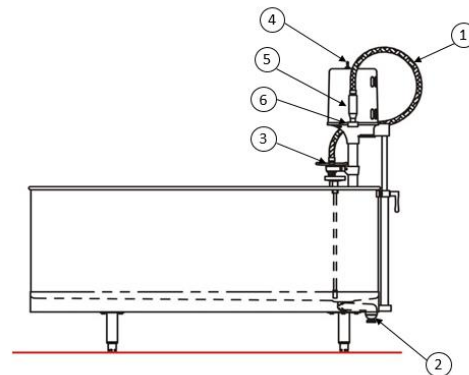
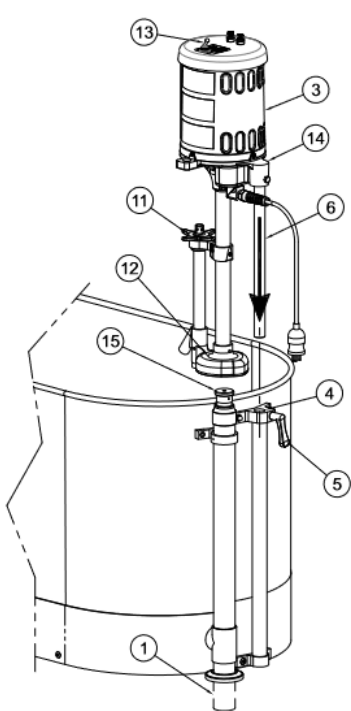
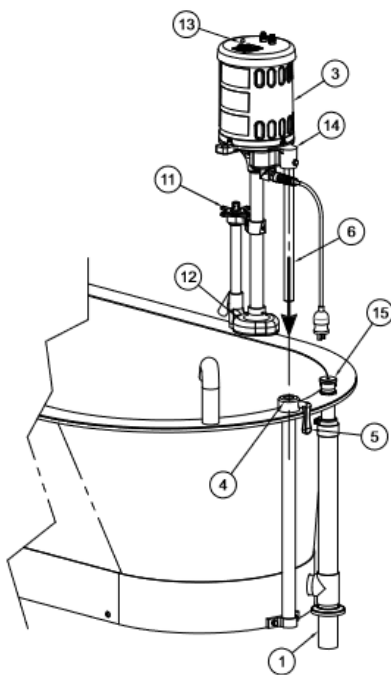

Figure 7: Draining the tub on the -SL model
Figure 8: -S model with standard drain and overflow
Figure 9: SB-100-S with standard drain and overflow
2. **-SL models w/o separate drain pump** (Figure 7):
- b. Lift discharge nozzle (5) from storage socket (6) and place in sink.
- c. Turn pressure control valve handle (3) fully counterclockwise. This diverts water to the hose (1).
- d. Place and hold discharge nozzle (5) into sink then turn the turbine power switch (4) on to start draining to sink.
- e. When water stops discharging from the nozzle, turn the turbine power switch (4) off.
- f. Drain remaining water using drain valve (2) or by using a dry sponge.
- a. Standard drain and overflow (Figure 8 and Figure 9): Lift combination drain and overflow assembly handle (15).